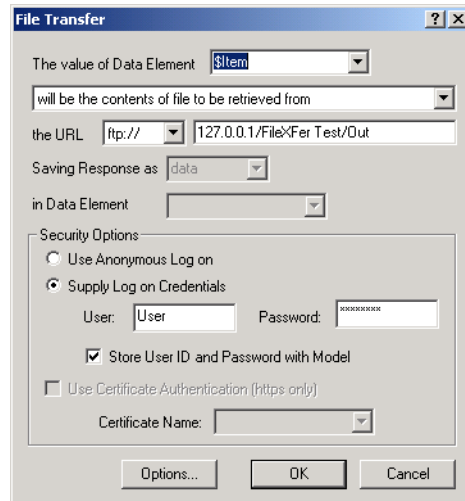

Figure 31-7. Select the data element you want to associate with the file operation, then select the desired file transfer option.
- ❶ To insert a file transfer operation, double-click on any task, select the **Opening or Closing Script** tab, right-click on the Begin statement, then select **File Transfer Operation** from the **Insert** drop-down menu. The File Transfer dialog appears.
- ❷ Select or enter the **Data Element** you want to use from the available data elements in the drop-down data element list.
- ③ Select the **will be the contents of file to be retrieved from** operation from the second drop-down list.
- ④ Select **FTP** from the list of transport protocols.
- ⑤ Type a valid FTP location and path to the source data (see Figure 31-7, below).